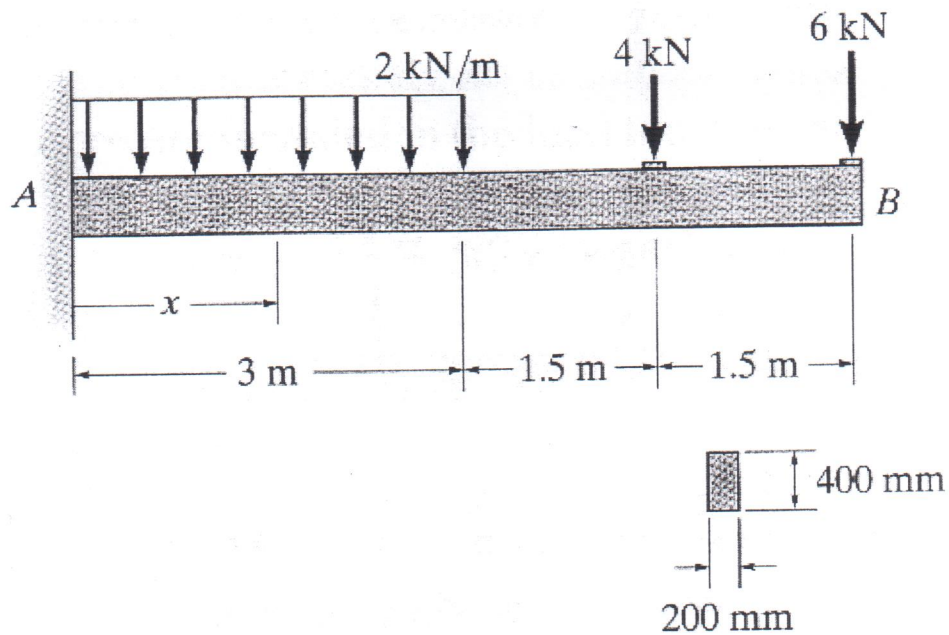

Figure 6.
- (6) For the loaded wooden beam shown in **Figure 6** determine the equation of the elastic curve. If the modulus of elasticity $E_w = 12$ GPa, determine the deflection and the slope at end **B**.